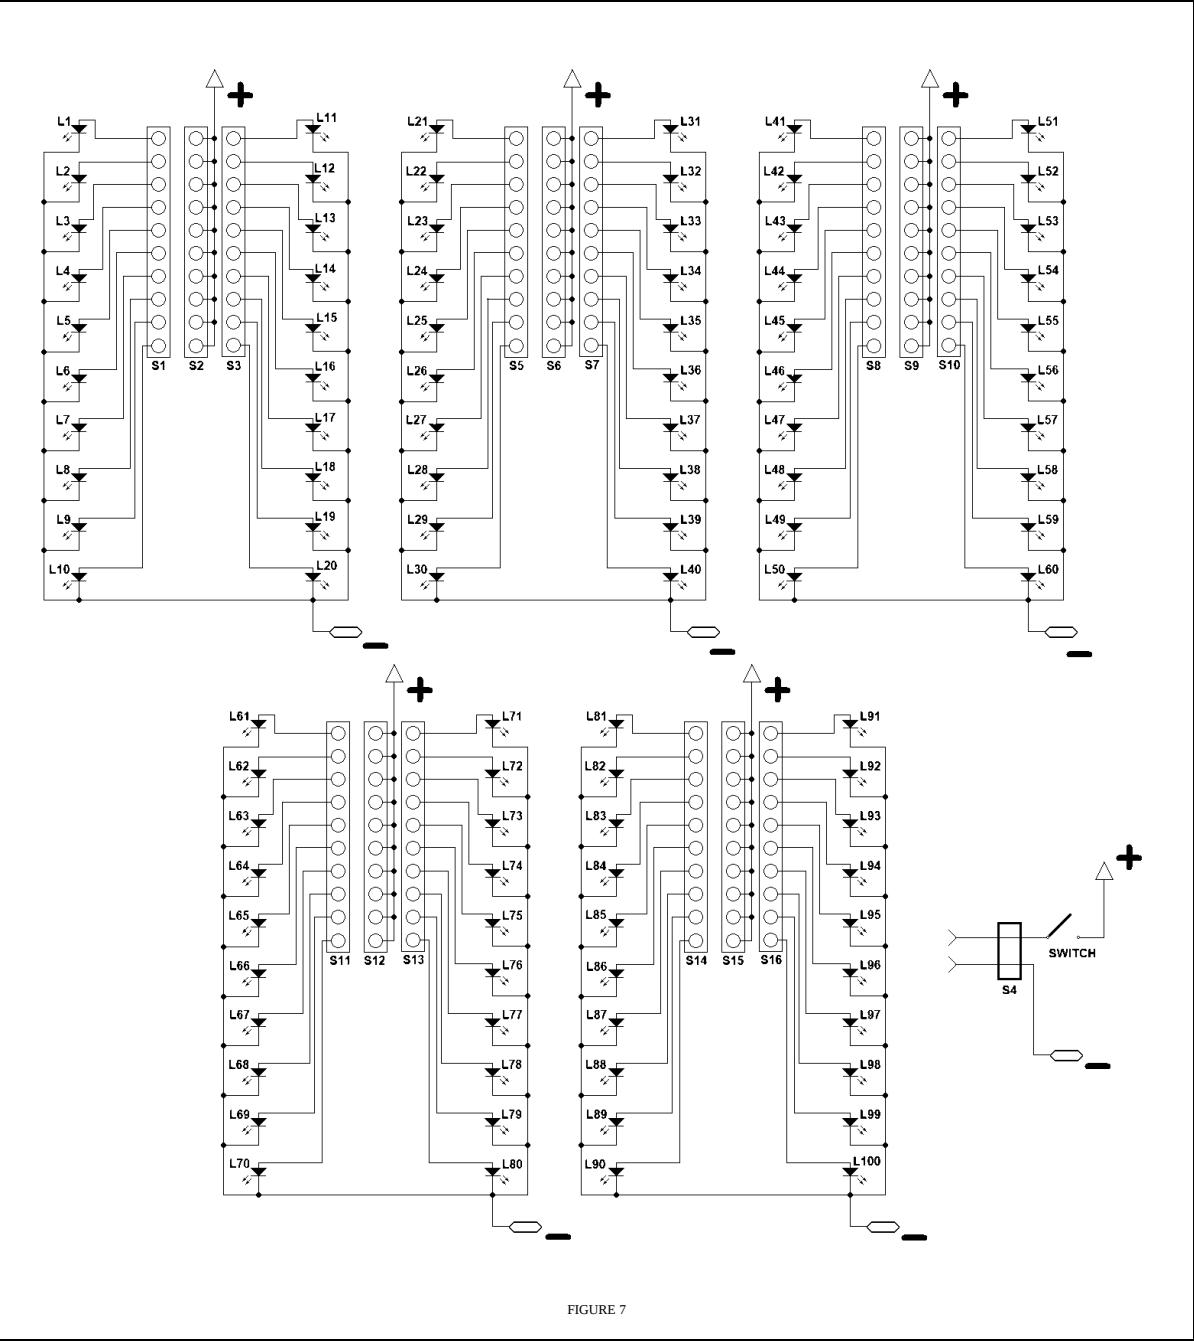

FIGURE 7
Please read the below together with the circuit diagram in Figure 7.
- From Figure 7, you may feel the circuit is very complex. But when you look at each circuit for each LED, you may find the circuit is very simple.